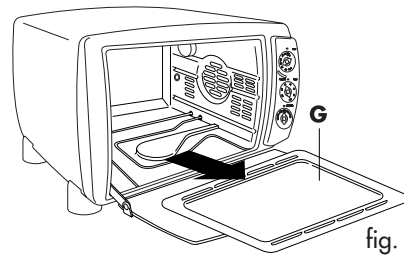

fig. 11
Slide the crumb tray (G) out from under the bottom of your oven (see fig. 11). Wash by hand. Should food residue be difficult to remove, rinse the crumb tray with hot soapy water and if necessary, scour it delicately, without scratching it.